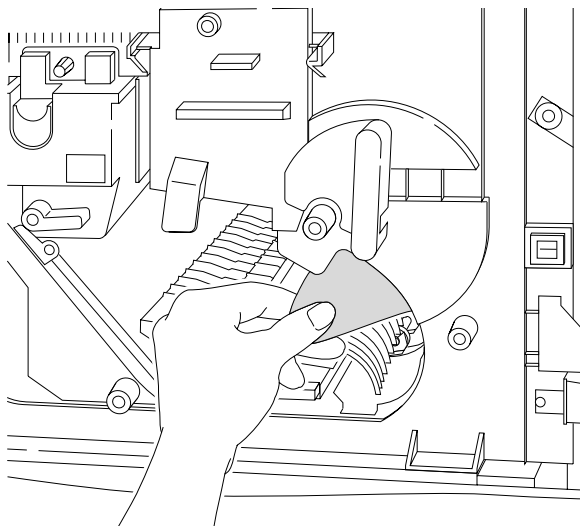

Figure 3-40 Paper removed from under Drum Unit
6. If you can see the paper jam, reach up and remove it, as shown in Figure 3-40.
7. If the paper is not visible, reach into the area indicated in Figure 3-40 and feel for it.